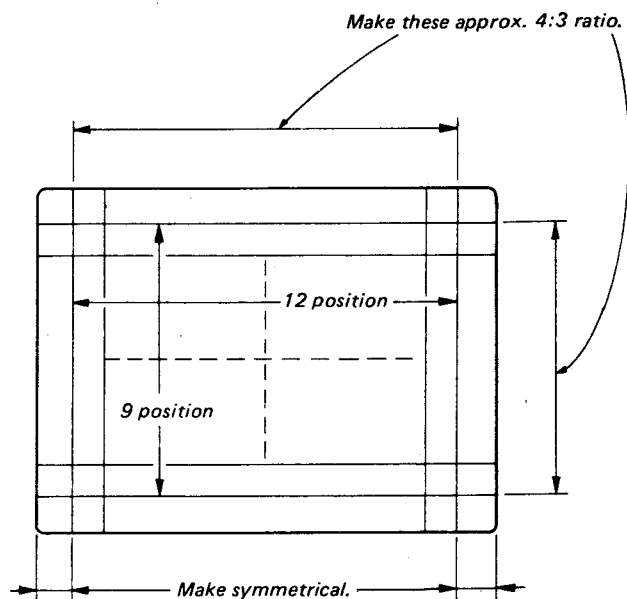

Fig. 5-176.
6. Adjust RV 1 and L1 so that the ratio of 12 horizontal portions and 9 vertical portions is approx. 4:3 and the horizontal positions becomes symmetrical. (See Fig. 5-176.)